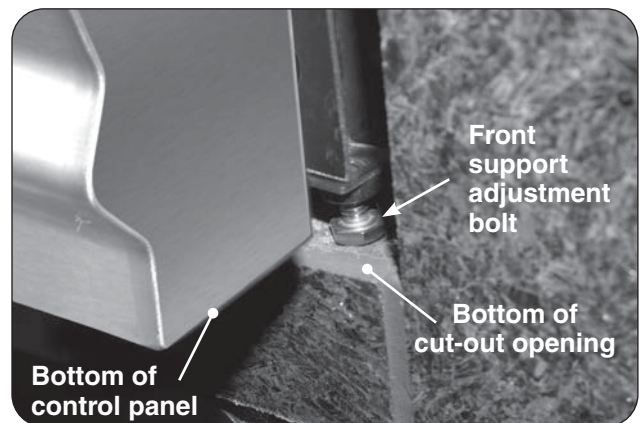

Fig. 18-3 Front support adjustment bolts
This outdoor built-in grill must be supported by the stainless-steel hanger extending from the upper portion of the grill. The hanger rests on the left, right, and back of the countertop and on the two front support adjustment bolts located below the control panel on the left and right sides (see Fig. 18-3).
2. Rotate the front support adjustment bolts to the left to raise and to the right to lower the respective side of the appliance. Use a  $\frac{7}{16}$ " open-end wrench as needed. See Fig. 18-3.